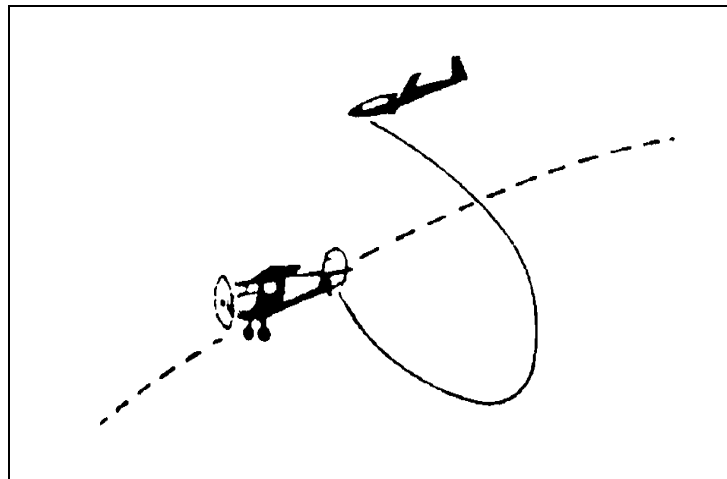

Figure 2-4-7 Slack During Descent
- c. During a descent the tow aircraft may not gain as much speed as the glider on tow. This can lead to a steady increase in tow rope slack as the glide angle is increased (Figure 2-4-7).